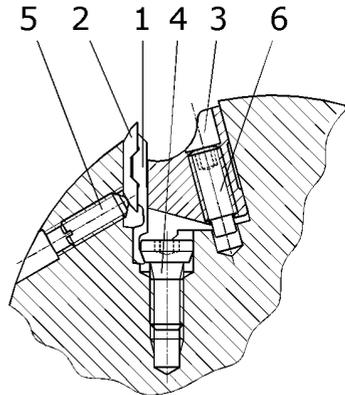
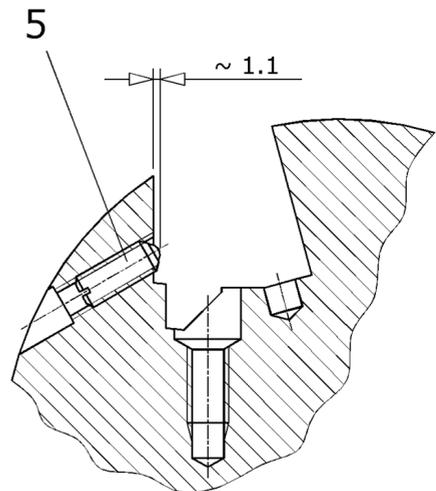

Fig.1
Fig.4
(See Fig. 1 through 3)
4. Do not remove the set pin (6) when changing the knife (see Fig. 1).
7. Carefully insert the reversed or new knife laterally. Be certain the knife carrier's (1) cam engages completely in the knife's groove, in order the correct radial position is obtained (see Fig. 1).
(See Fig. 1 and 4)
2. Clean the set screw (6) and threaded hole in the centrifugal wedge (3), as well as the spring-loaded ball screws (5) and threaded holes in the tool body completely from glue residues using a solvent.
3. Treat the spring-loaded ball screws (5) with screw securing paste (e.g. LOCTITE) with screw securing paste (e.g. LOCTITE) and screw them into the provided threaded holes of the tool body. The spring-loaded ball screws must project approx. 1.1 mm over the knife seat's surface (see Fig. 4).
4. Turn the screws (4) with the Torx key into the tool body's corresponding threaded holes until the knife carrier (1) can be laterally pushed-in.
6. Turn the screws (4) at the specified torque of 5 Nm with the corresponding torque wrench.
8. Treat the set screw (6) with screw securing paste (e.g. LOCTITE) and screw it into the centrifugal wedge's threaded hole. Make sure that the set screw's non-threaded cylindrical end part engages in the knife seat's respective hole. Turn the set screw only until its upper edge is flush with the threaded hole (see Fig. 1).
9. Slide reversed or new knife laterally into the knife seat. Make sure that the knife carrier (1) cam engages completely into the knife's groove, in order to guarantee the proper radial position (see Fig. 1).
(See Fig. 1 and 5)
1. Make absolutely certain that all individual components of the SINUS clamping system have been completely removed from both the opposing knife grooves in which the addition knife holders will be placed (see Fig. 1, pos. 1 to 6). If this is not the case, remove all individual components according to "Instructions for dismantling the SINUS clamping system".